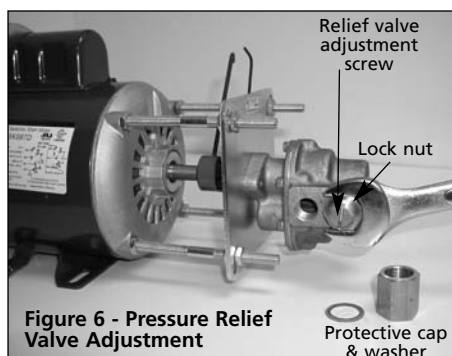

Figure 6 - Pressure Relief Valve Adjustment
- To increase the pressure relief valve pressure setting, remove pressure relief valve stem cap cover and turn the adjusting valve stem (Ref. No. 4) in (clockwise). Turning the adjusting valve stem out (counterclockwise) will reduce the pressure setting (See Figure 6).